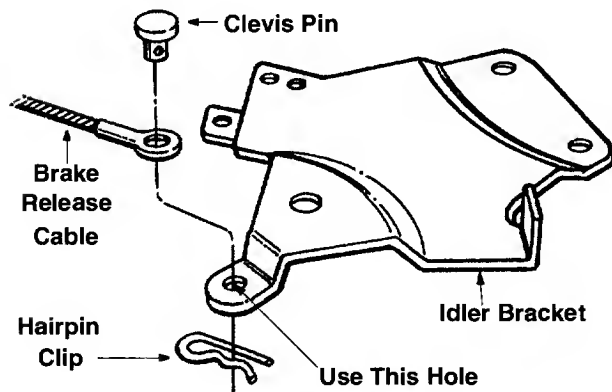

Figure 13
22. Secure the brake release cable to the tractor idler bracket with clevis pin and small hairpin clip, using the hole in the idler bracket as shown in Figure 13.